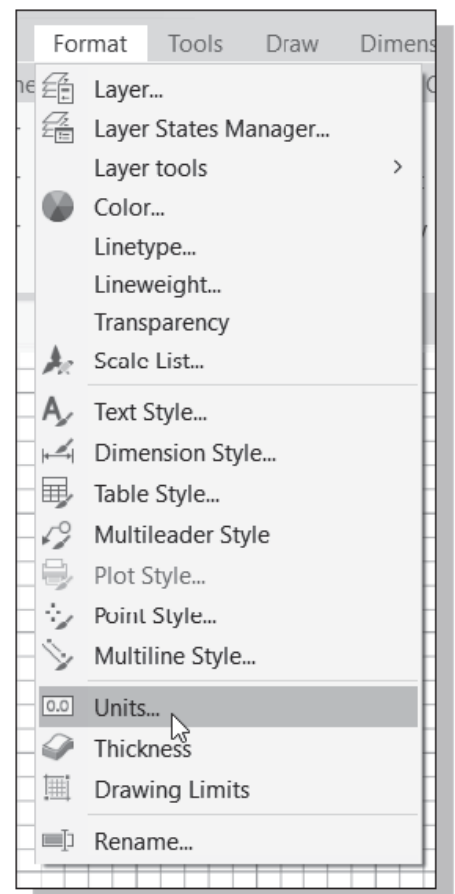

Figure 5
1. In the **Menu Bar**, select **Format > Units** (Figure 5).